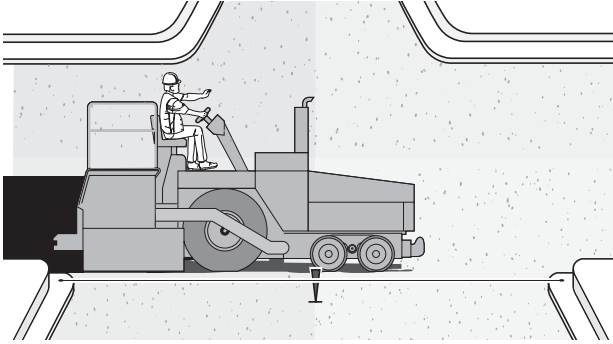

Figure 7-16. Paving Through Intersection Using Hub
2. Pull the string tight through the intersection and nail or secure it to the other curb (Figure 7-16 on page 7-10).